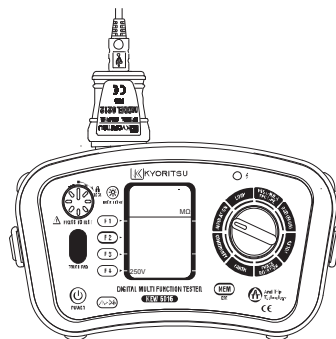

Fig.52
(1) Connect Model8212USB to the USB Port of a PC. (Special driver for Model8212USB should be installed. See the instruction manual for Model8212USB for further details.)
(2) Insert Model8212USB into the KEW6016 as shown in Fig 52. Test Leads should be removed from the KEW6016 at this time.
(3) Power on the KEW6016. (Any function is OK.)
(4) Start special software "KEW Report" on your PC and set the communication port. Then click "Down load" command, and the data in the KEW6016 will be transferred to your PC. Please refer to the instruction manual of Model8212USB and HELP of KEW Report for further details.